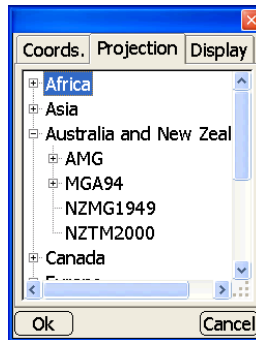

Figure 1-32. Control Options – Projection
2. On the **control options** dialog box (Figure 1-32), press the *Projection* tab to display a list of pre-defined projections to use for control.